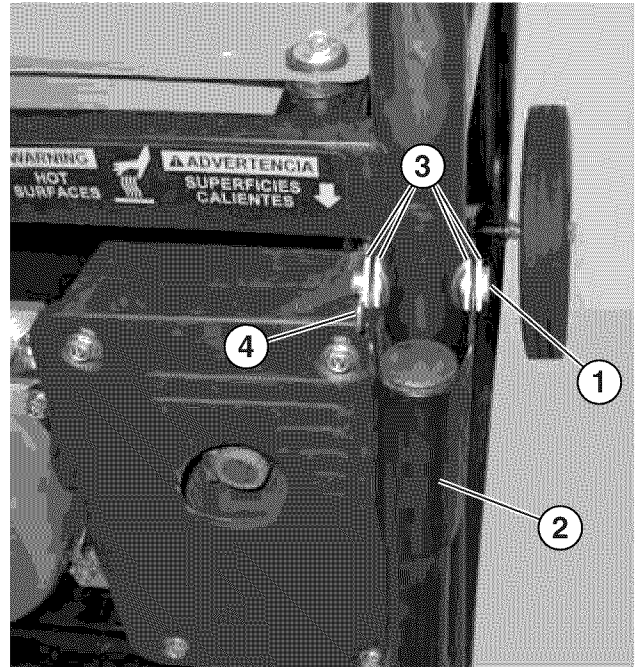

Figure 10 – Attaching the Handles
9. Install the handles using the clevis pin and hairpin cotter. Install the nylon washers on the outside and inside of the handle as shown in Figure 10.